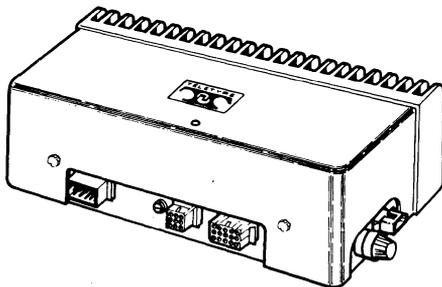

Fig. 1—40KDA101 Keyboard-Display Amplifier
1.01 This section provides general description, installation information, testing, trouble isolation procedures, disassembly/reassembly and parts identification for the 40KDA101 Keyboard-Display Amplifier (Fig. 1).